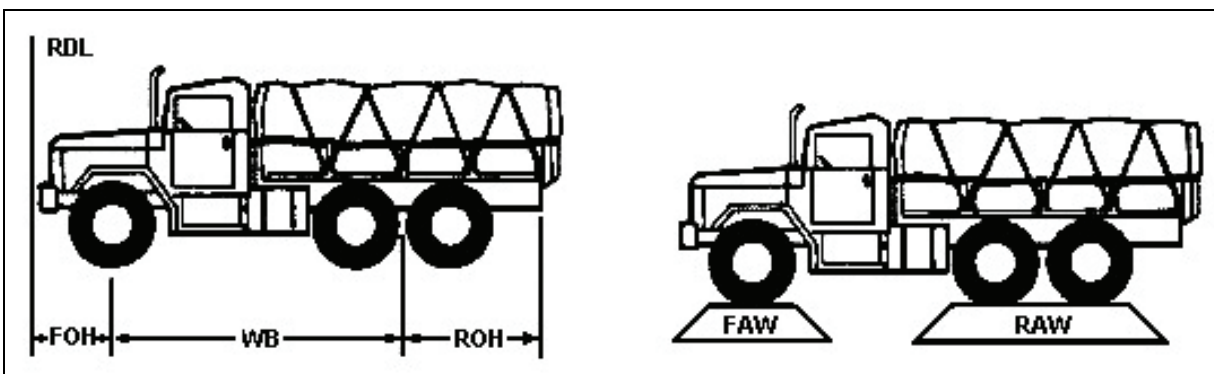

Figure 3-5. Calibrating Scales
1. Calibrate scales to zero (see Figure 3-5).
NOTE: Figure 3-5 shows vehicle measurement points. The following terms are used to calculate the center of balance: